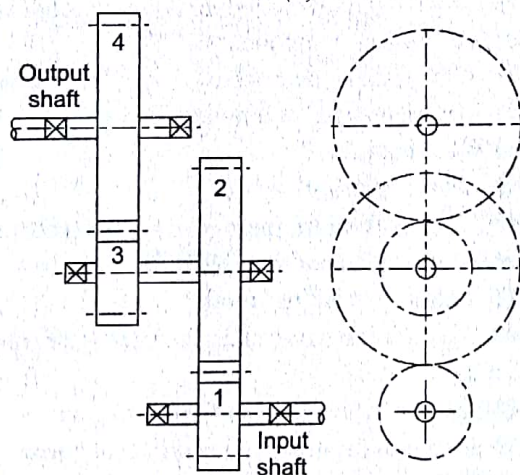

Fig. 17.47
- 17.4 **M** A train of spur gears is shown in Fig. 17.47. Gear 1 is the driving gear and transmits 5 kW power at 720 rpm. The number of teeth on gears 1, 2, 3 and 4 are 20, 50, 30 and 60 respectively. The module for all gears is 4 mm. The gears have a 20° full depth involute profile. Calculate the tangential and radial components of the tooth force between: [LO 4]